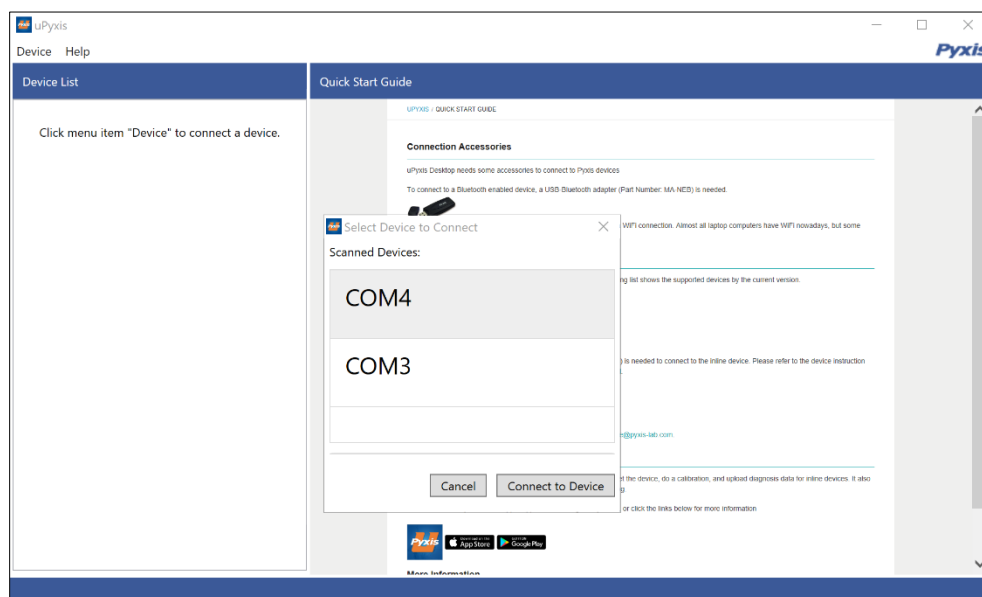

Figure 9. Select a Comm port
4. Select the Comm Port to make a connection (Figure 9) (normally only one Comm port is identified by uPyxis. If more than one Comm port listed in the selection dropdown, you may try to select each one to see if a connection can be made. Alternatively, you may use the Windows Device Manager to identify the Comm Port that the Pyxis USB adapter is used.)